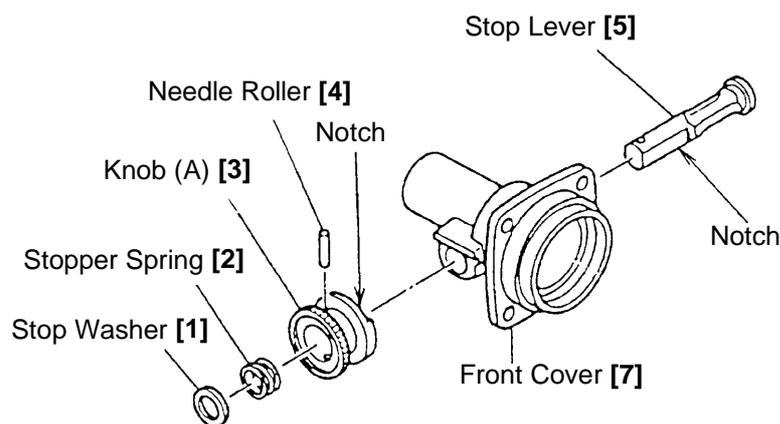

Fig. 17
(4) Tool Holder
As illustrated in Fig. 17, ensure that the notched portions of the Stop Lever [5] and Knob (A) [3] are properly aligned during reassembly. If not properly aligned and assembled, the tool (drill bit, bull point, etc.) cannot be properly inserted into the retainer.